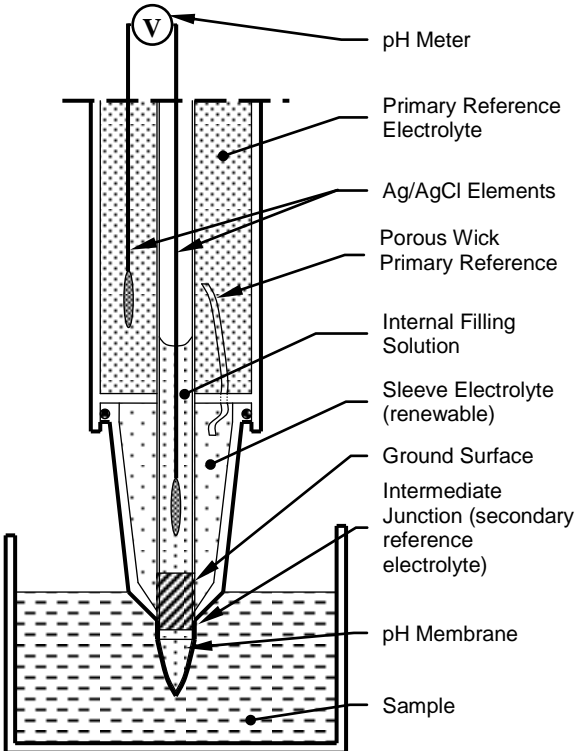

Figure 6
Part of the circuit is electronic (heavy lines) (see Figure 6). The remainder is ionic. Unlike other pH electrode measuring systems which rely on electron transfer such as antimony and quinhydrone, the pH glass electrode is insensitive to ORP.
- 7) Immerse the electrode so that the reference junction is below the surface (see Figure 6).